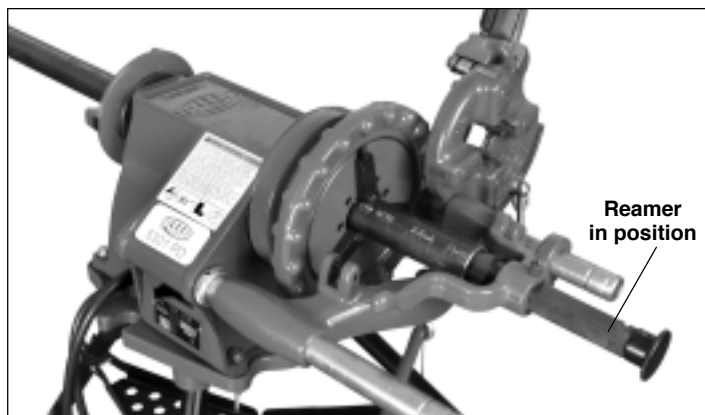

Figure 10
1. Swing die head and cutter back to out-of-the-way position (Figure 10).